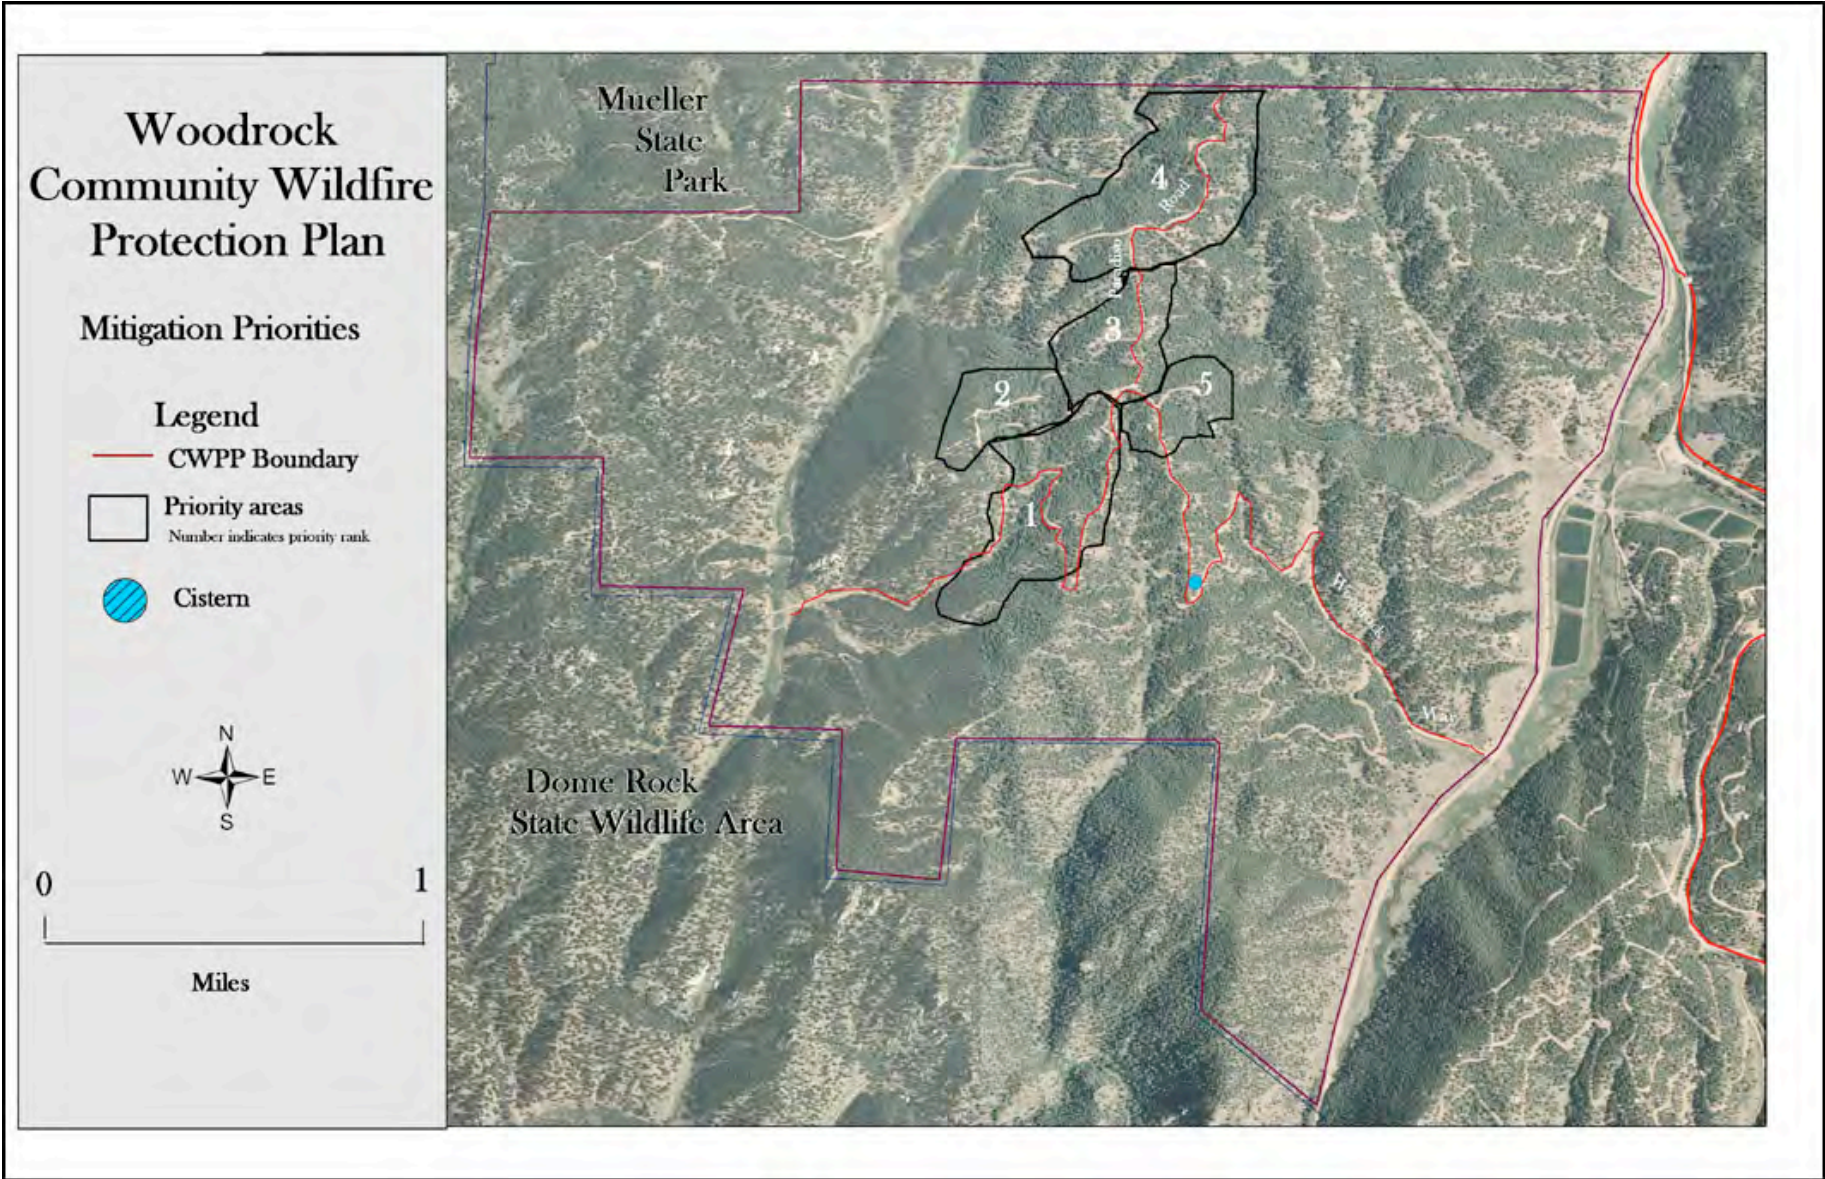

Figure 3: Woodrock Mitigation Priorities
4. Reduce wildfire hazards within the community. Identify areas where biomass reduction in high-risk areas is needed to reduce threats to the community and community infrastructure. Introduce the concepts of area wide effective forest thinning and creating fuel breaks (primarily the roads) for fire management planning. “The Buffalo Creek Fire” in Jefferson County (1996) and the “High Meadow Fire” in Park and Jefferson Counties (2000) slowed dramatically wherever forest thinning had been completed.” Woodrock terrain is often steep and rocky and difficult for a large-scale fuels treatment project. There are ridgelines present that could be treated to reduce the risk of crown fires. Further, a healthier forest is more resistant to insects and disease. See attached map indicating prioritized areas requiring thinning. **(Figures 3 & 3A)**